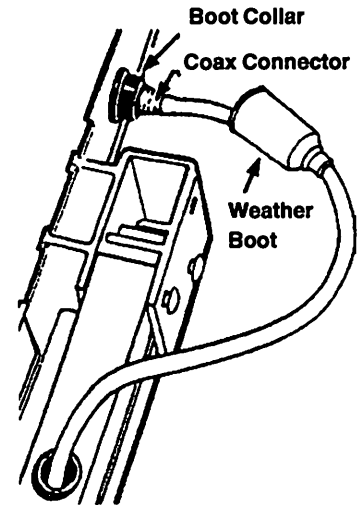

FIGURE 3
STEP 6: Attach coax connector to jack on back of antenna head, slide weather boot into place over boot collar as shown in Figure 3.